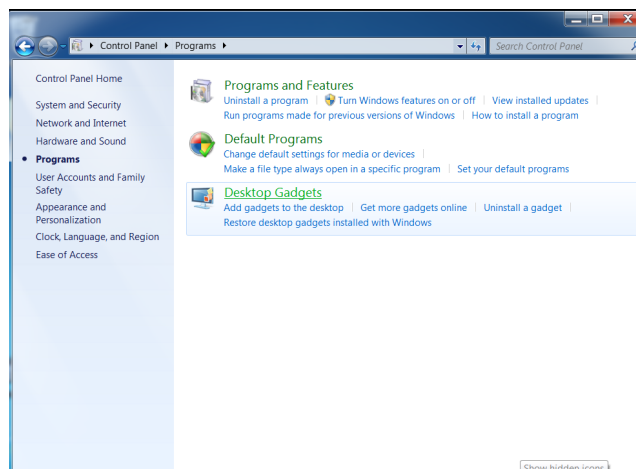

Figure B2
2. Click Programs (Figure B2).